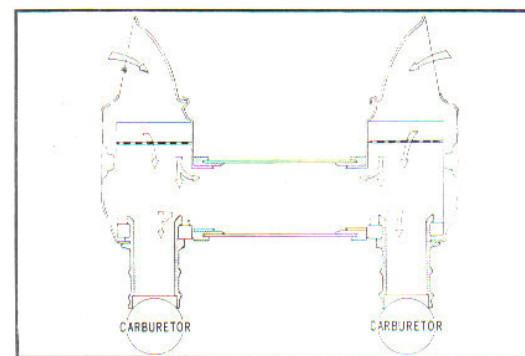

Fig. 6.21 Air cleaner airflow
- (1) The air cleaner is paper. When broken, replace.
- (2) Do not leave oil on the filter element as it prevents air filtration.
- (3) Inspect the filter element connecting line and connector for peeling, breakage, broken rubber, and other damage.
(4) When reassembling, join the right and left air cleaners with the connecting line. If done incorrectly dirty air is taken in, and cylinder and piston will soon wear. (Fig. 6.21)
(5) Insure that air is not taken in from outside anywhere.